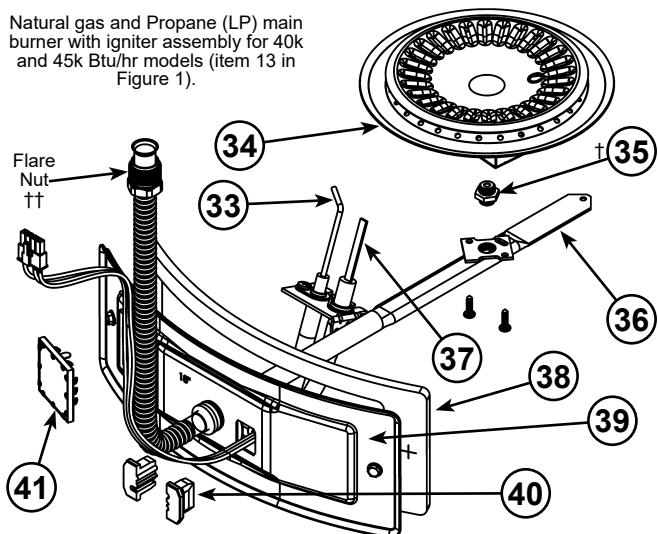
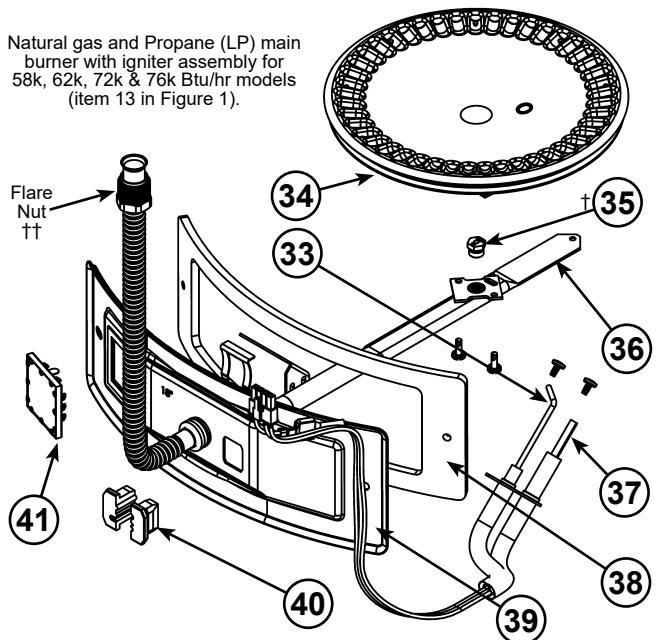

Figure 60.
Figure 61.
- 13 Manifold Door Assembly (behind outer door) (see Figure 3 & Figure 4) (see also Figure 60 & Figure 61)
- 33 Flame Sensor Rod (see Figure 3 & Figure 4) (see also Figure 60 & Figure 61)
- 34 Sheet Metal Burner (see Figure 3 & Figure 4) (see also Figure 60 & Figure 61)
- 35 Gas Orifice (see Figure 3 & Figure 4) (see also Figure 60 & Figure 61)
- 36 Gas Manifold (see Figure 3 & Figure 4) (see also Figure 60 & Figure 61)